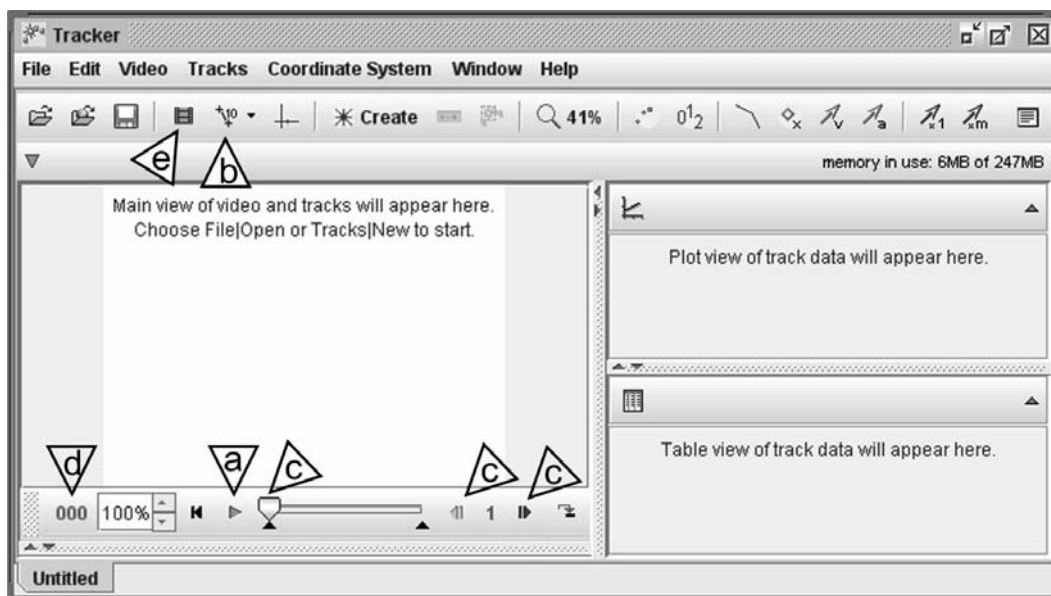

Fig. 6 The Tracker interface.
3. Play the video in the program, at **a** in **figure 6**. Repeat for the other videos and select the best video for subsequent analysis.
4. Create a new calibration tape (not stick) in the program - at **b** in **figure 6**. We will use the calibration tape to determine the velocities of the discs. Calibrate the tape by dragging its endpoints to the ends of the image of the ruler in the window. Change the indicated length of the tape the real length of the ruler (click on the value next to it, type in the length and hit enter). Note that you can use the mouse wheel to zoom in or out of the picture. The picture can also be dragged in the window with the mouse after you have zoomed in on it.
The video consists of a lot of still pictures, called frames, taken in rapid succession at a constant rate. Pause the video and step through the frames with the controls in the window at **c** in **figure 6**. Note that the frame numbers are indicated at **d**. The frame rate can be viewed by opening the clip inspector at **e**. You can step forward and backwards through the video, but it seems that the graphics are not synced correctly initially when stepping backwards and then forwards again. It does synchronize after stepping a few frames forwards again. Just keep this in mind when you want to position on a particular frame in the video.
where Δt is the time lapse from one frame to the next. This value stays constant throughout the video and can be obtained from the clip inspector window - **figure 6 e**. To specify the velocities of the discs all that needs to be added is the direction in which the discs were moving. This is measured by stretching the calibration tape along the path followed by the discs. The program indicates the direction of the tape at the top of the pane, the stretched length of the tape is also repeated there